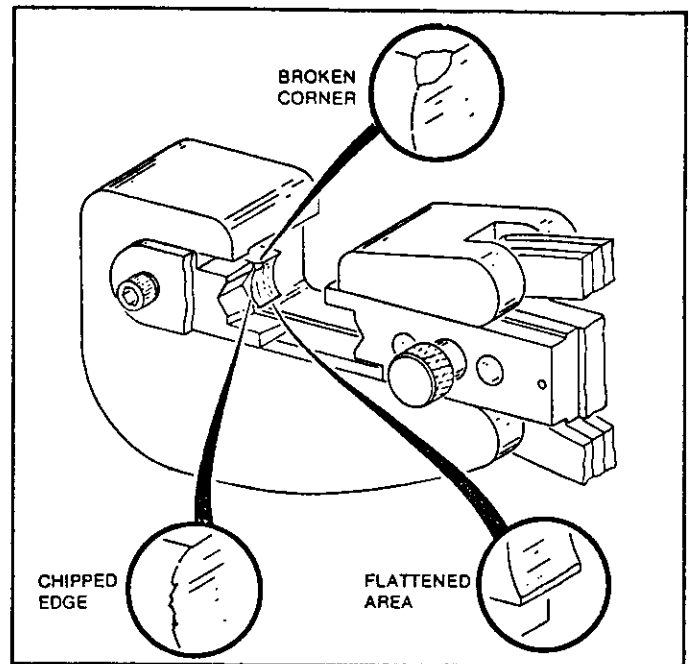

Figure 5
- (b) Visually inspect the die closure surfaces for flattened, broken or chipped conditions. Although dies may gage within permissible limits, worn or damaged die closure surfaces are objectionable and can affect the quality of the crimp. Examples of possible damaged die closure surfaces are shown in Figure 5.